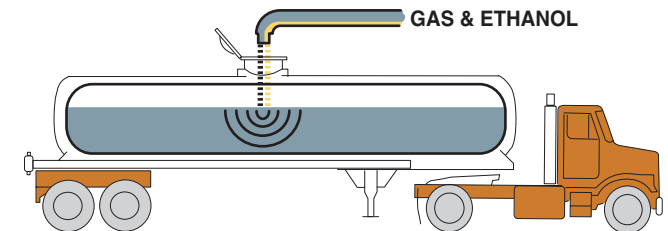

FIGURE 12-12 In-line blending is the most accurate method for blending ethanol with gasoline because computers are used to calculate the correct ratio.
1. **In-line blending.** Gasoline and ethanol are mixed in a storage tank or in the tank of a transport truck while it is being filled. Because the quantities of each can be accurately measured, this method is most likely to produce a well-mixed blend of ethanol and gasoline. ● **SEE FIGURE 12-12.**